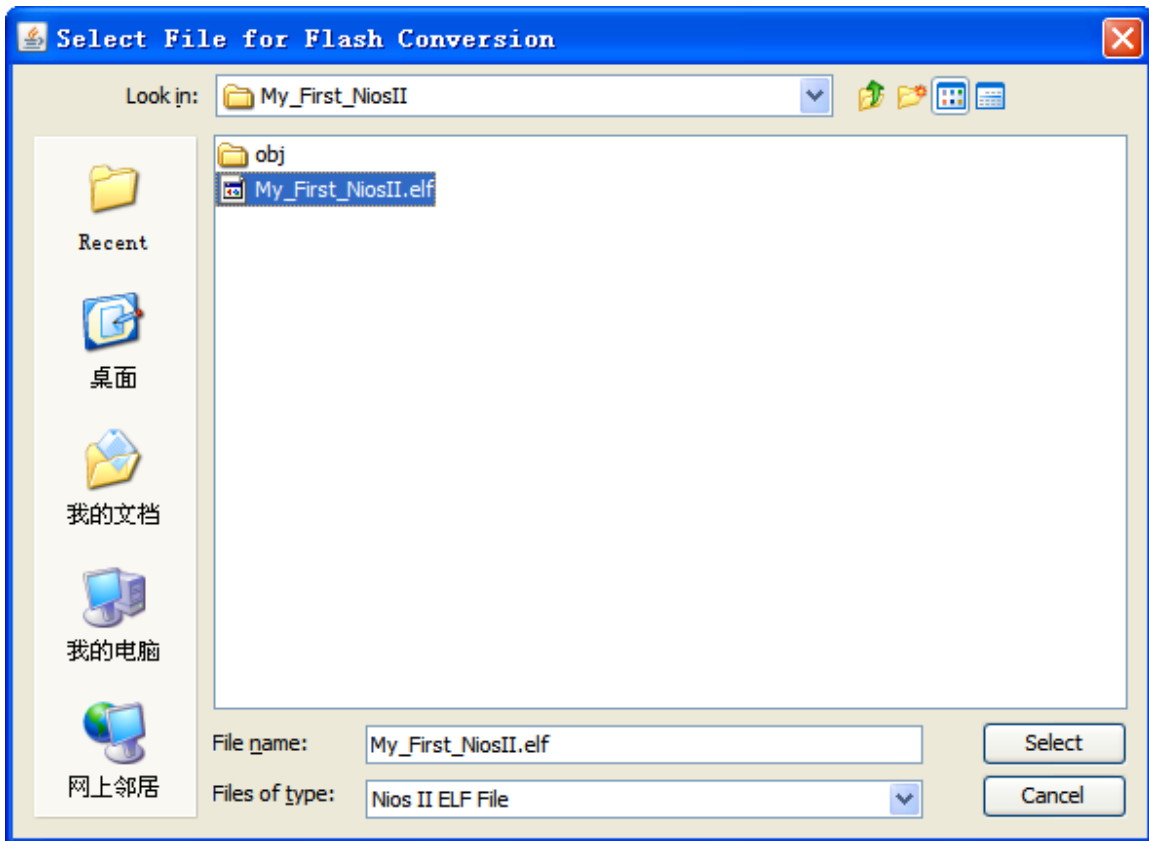

**Figure 3-26 Select SOPC Information Design File[2]**
4. Select “DE2I\_150\_QSYS.sopcinfo” file, and click Select to back as shown in Figure 3-26.